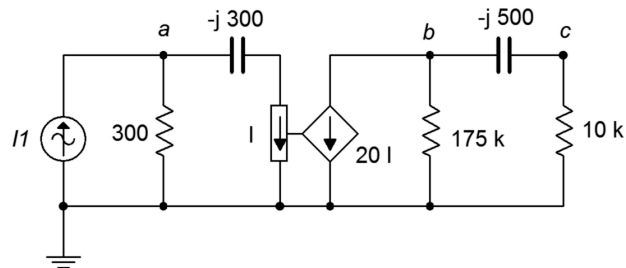

Figure 5.16
31. Determine v_b in the circuit of Figure 5.16 if the source $I_1 = 20E-3\angle 0^\circ$.
32. Determine the current through the 10 kΩ resistor in the circuit of Figure 5.16 if $I_1 = 10E-3\angle -90^\circ$.